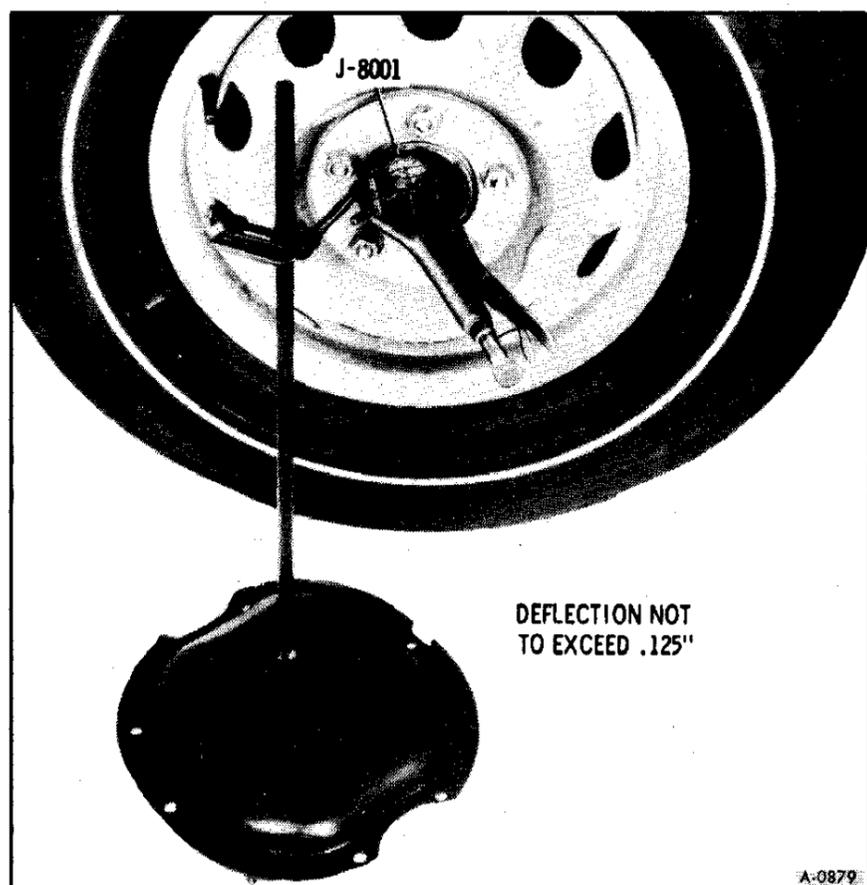

Figure 18—Ball Joint Vertical Check
2. Position dial indicator as shown in figure 18.